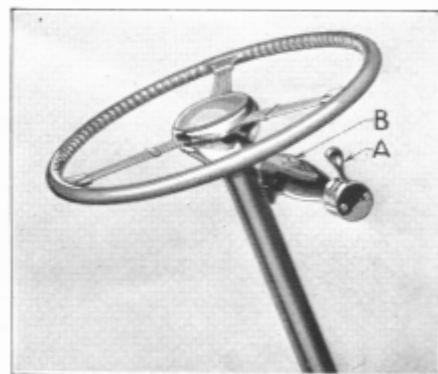

Figure 2
The operation of the Electric Hand is controlled by a small lever attached to a mounting on the steering column, just below the steering wheel. The gear is selected merely by moving the small lever (A), Figure 2, with a finger of the right hand. Then by depressing the clutch pedal fully to the floor board the actual shifting of gears is accomplished.
A small "off and on" switch (B), Figure 2, is provided on the selector switch to prevent tampering with the shifting mechanism and is also used to make the "Electric Hand" inoperative when the car is being serviced.